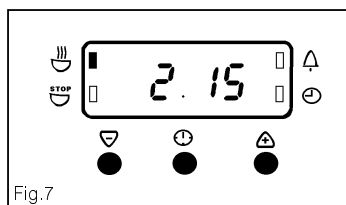

Fig.7
- iii) To set the length of cooking time, press the Selector control button ( $\Delta$ ) until the 'Cook Time' indicator neon is illuminated ( $\text{☺}$ ). Press the increase control ( + ) until the required length of cooking time is displayed, e.g. 2 hrs 15 mins as Fig. 7. If necessary depress the decrease control ( - ) until the correct time interval is achieved.